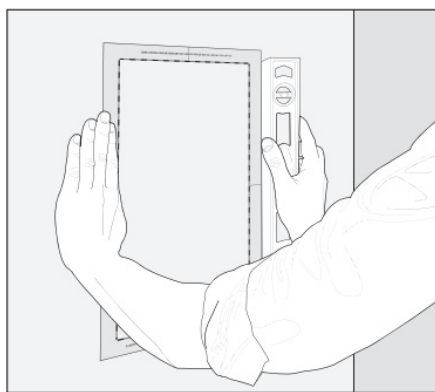

Fig. 2a
- 1) Place the mounting template onto the wall. Use a level to make sure it's straight (Fig. 2a).